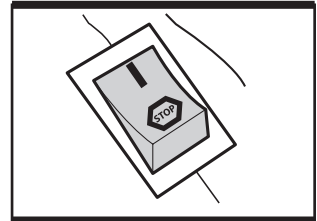

Fig. 13b
- b). Set the ignition switch (A18) to its on position "I". (See Fig. 13b)